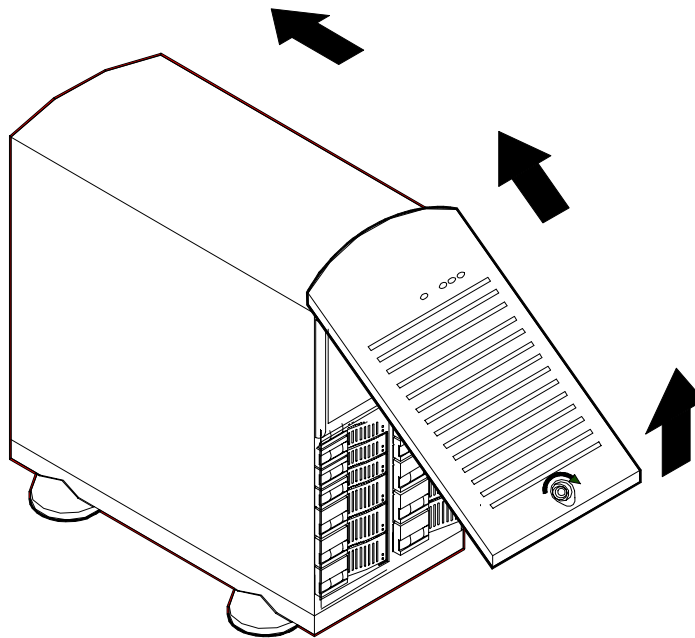

Figure 4-1. Opening the Front Door
2. Pull the bottom of the front door out and tilt up until it is aligned level with the top of the cabinet, then push the door back directly over the top of the cabinet as far as it will go. See Figure 4-1.